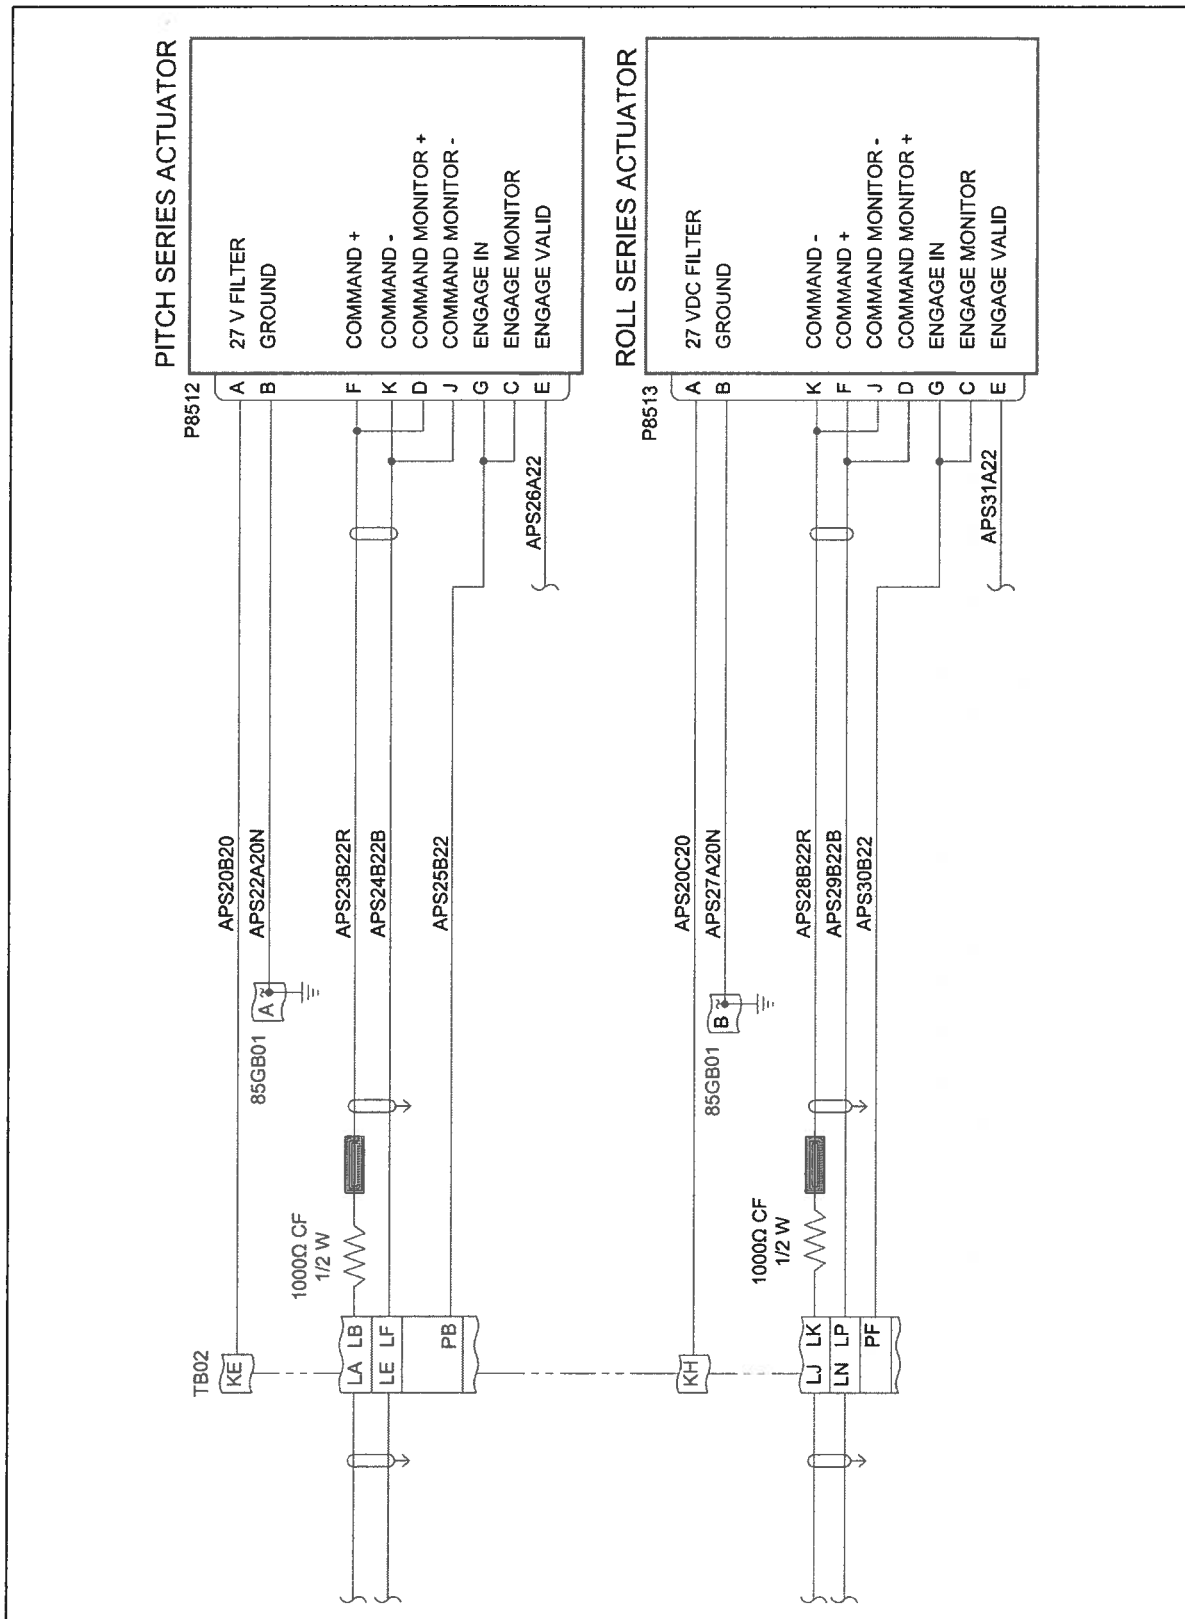

FIGURE 5 – Pre-Mod Pitch and Roll Actuator Wiring Diagram
15. From the **RED** Roll SEMA electrical connector (P8513) remove the following wires as shown in Figure 5: APS28B22R from Pin K and Jumper Wire from Pin J, APS29B22B from Pin F and Jumper Wire from Pin D, APS30B22 from Pin G and Jumper Wire from Pin C, and APS31A22 from Pin E.